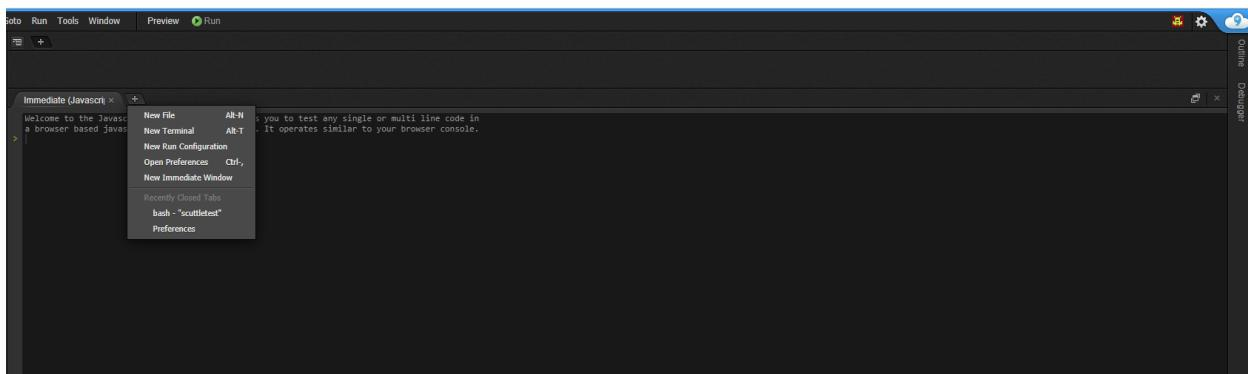

Figure 5
2. Then start a new bash terminal by clicking the (+) and selecting New Terminal like Figure 5.